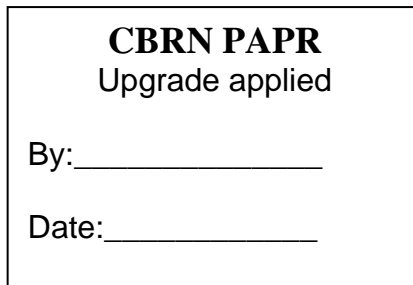

Fig. 6
7. Replace back plate cover and attach upgrade label to the outside of the back plate (Fig. 6).